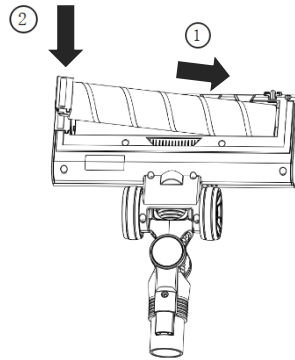

Figure 21
4. After cleaning up, insert the roller brush and push it to the end, and then press down the side cover of the roller brush, you can hear a click when installed in place (Figure 21).